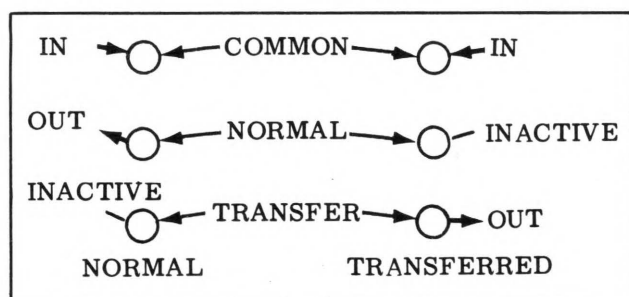

Figure 25. Selector (Illustrated).
Each selector contains one set of common (C), normal (N), and transfer (T) hubs. Internal wiring connects the common hub to the normal hub. Therefore, a wire carrying an electrical impulse into the common hub, will emit from the normal hub. However, when the selector is energized (transferred), the connection between common and normal hubs is broken, and a connection is established between the common and transfer hubs. Therefore, an electrical impulse wired into the common hub of an energized selector, will emit from the transfer hub. This condition continues until the selector is de-energized (dropped). Then the connection between common and normal hubs is re-established. Figure 25 illustrates a selector in the normal and transferred condition.